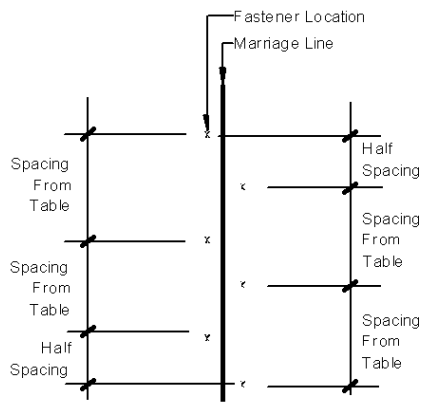

Figure 36. Staggered offset fastening along marriage line
Stagger fasteners on either side of marriage line and offset them by half the spacing distance (**Figure 36**).
- Stagger the holes from section to section, see **Figure 36**